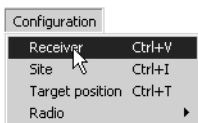

Figure 2-23. Configure Receiver
3. Click **Configuration ▶ Receiver** (Figure 2-23).